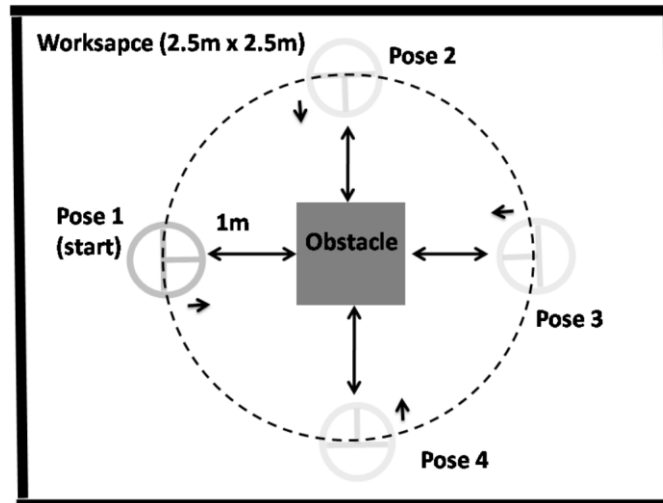

Figure 2.2: Configuration of the robot and obstacle for occupancy grid mapping.
1. Find a zero pose for your QBot 2e where you have at least a 2.5 m \times 2.5 m free space around it. Mark this initial position and orientation of the the QBot 2e as reference for the next steps. Find a box of at least 0.5 m \times 0.5 m \times 0.5 m and place it about 1 m in front of the robot as in Figure 2.2. Put the robot in a known initial configuration (Pose 1), shown in Figure 2.2), run the model and enable the manual switch once the robot is ready. Use the keyboard (up and down for linear motion; left and right for rotation) to move the robot around the obstacle, to poses 2, 3, and then move it back to the initial start point. At each pose try to rotate the robot 360 degrees around itself so it can find all the free space around the obstacles. Note: Make sure the robot always stays at least 1 meter away from the obstacle as in Figure 2.2. Do not drive the robot closer to the obstacle.